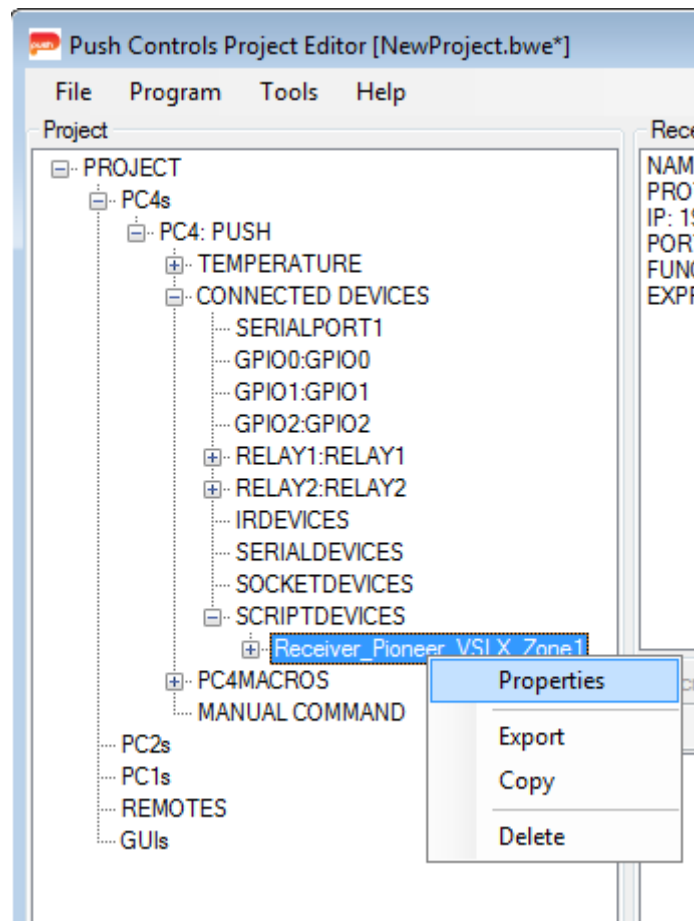

Figure 7 – Finding the Controller's Properties
- Select the controller *Refer to Figure 7*